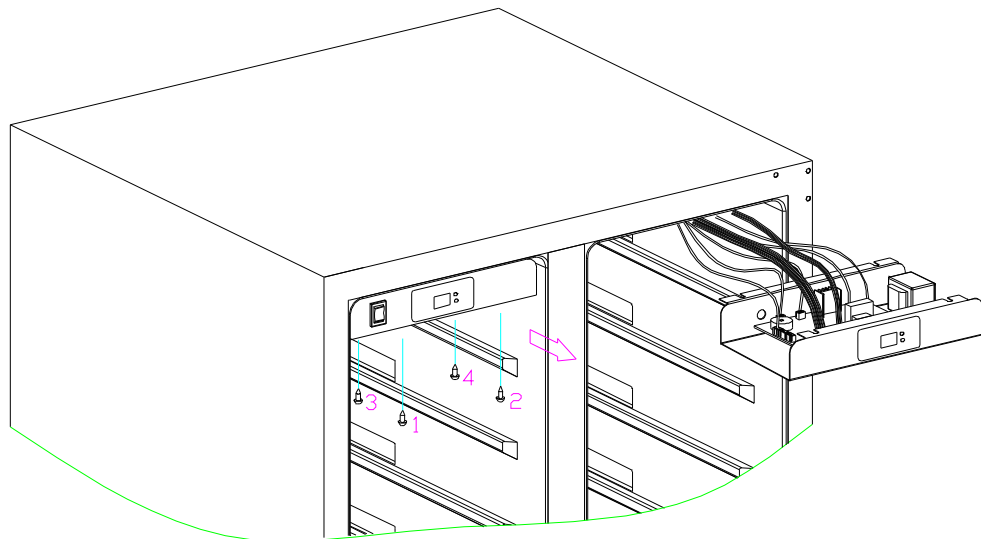
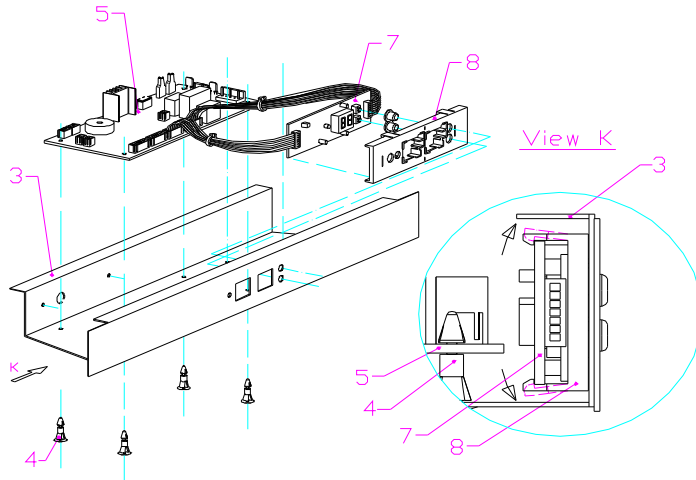
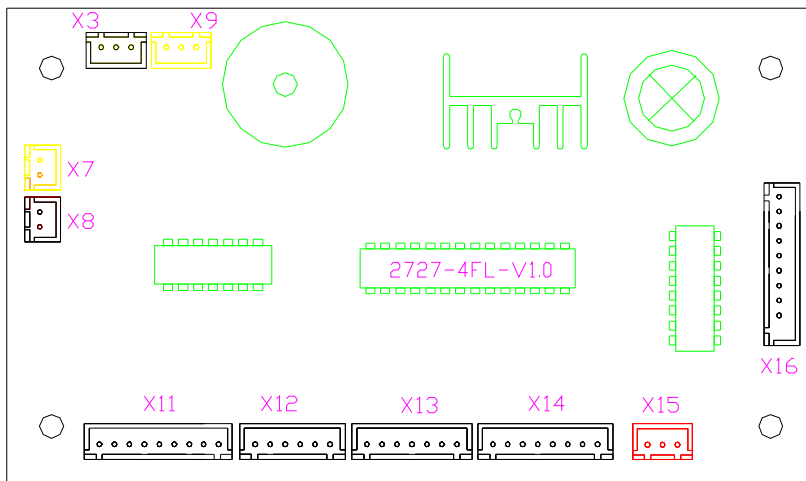

Fig. 10
Fig. 11
Fig. 12
3 >. If the above a~e point is line in the situation, and every components of the machine is normal; if there is any different, and firstly check the abnormal components and their connection wire. If the connection is tight, replace the components. If the replacement fail, it can be judged as control PCB's fault, please replace it with the same module. (Fig.10 & Fig.11)
1 >. After turning on the power, if the LED display shows the temperature is similar with the ambient temperature, it is normal, if abnormal, please remove the electrical box, (Fig.10 & Fig.11) (→9), check the sensor insert "X7" or "X8" whether reliable. If the insert is reliable, it is the sensor's fault, replace the sensor with the same module.
This fault caused by led displayer broken, just change it will be OK. (Fig.10 & Fig.11)
2 >. Screw the two bolts out from the electrical box (3, 4), half loose the two bolts(1, 2) which in the front of the box, pull the electrical box out ( Fig.10 )
3 >. The explode drawing of replaced electrical box is below; ( Fig.11)
- 4 >. Unplug all the connectors, then press the head of each of the four plastic studs (4) one by one, and move up-ward the control board, remove the control board, and replace it with the new module. See. ( Fig. 11)
- 5 >. Replace the LED display board. Unplug the four 4 display cover fasteners on display board supporter (8) as per arrowhead direction, and then remove the display board, and its two connectors from both sides, Replace the display board. See ( Fig. 11 & Fig. 12)
○ The name and explanation of the main PCB board connectors(Fig. 12)
- 1>. Follow the removing methods to remove the PCB board; (Fig.10 & Fig.11)